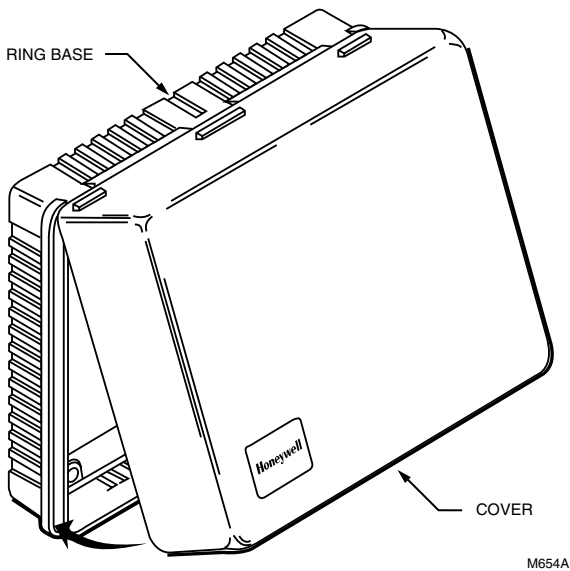
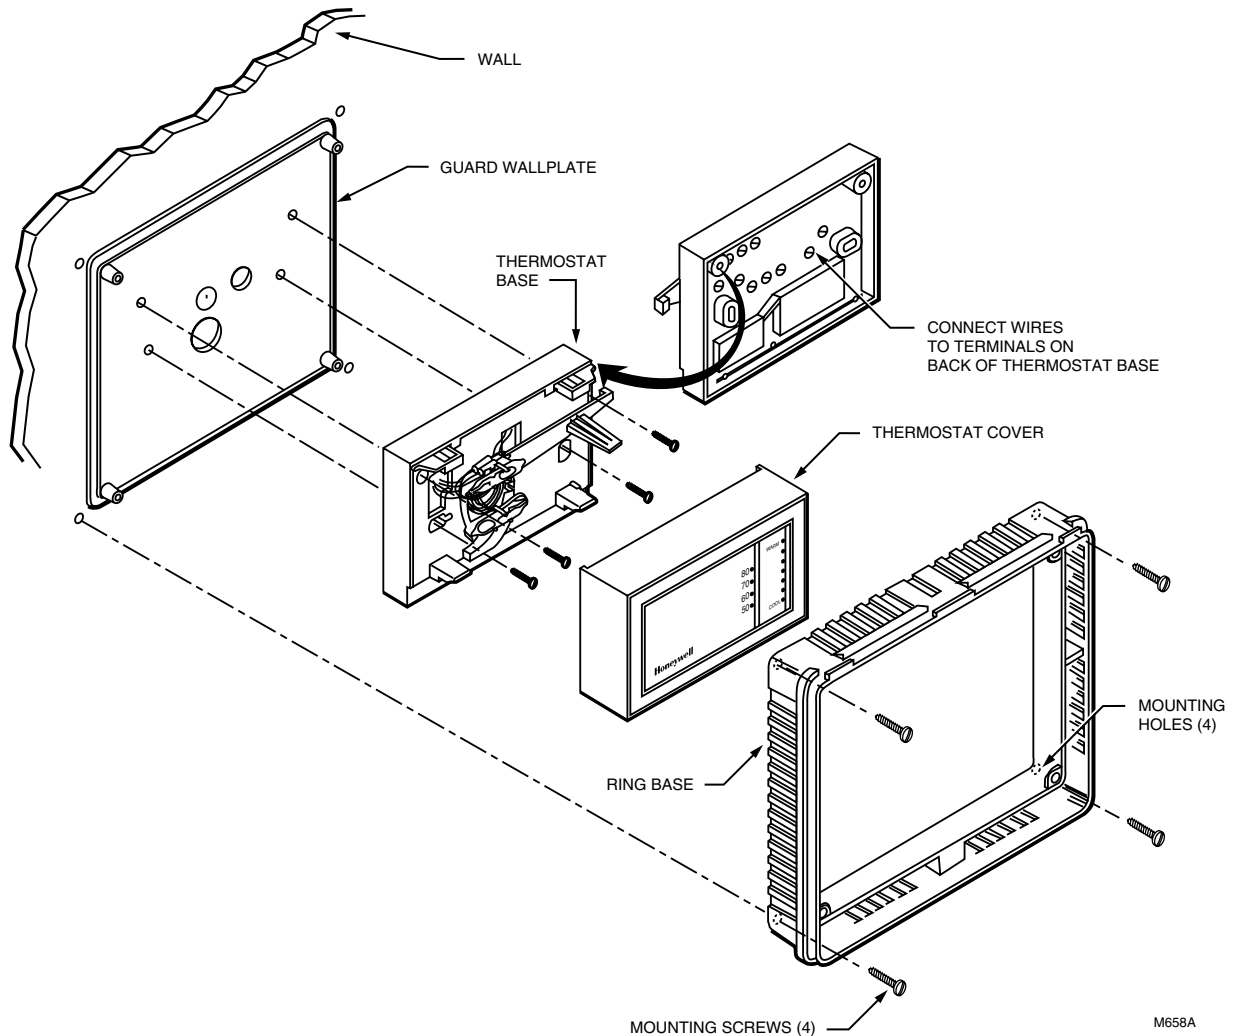

Fig. 7. Mount guard cover (TG510, TG511, TG512 shown).
Fig. 11. Mount guard wallplate and ring base on back-wired thermostat.
- 5 Mount the guard cover by placing the hinged edge of the guard cover on the ring base and swinging it down (horizontal mounting) or to the side (vertical mounting) until the guard cover is in place against the ring base. See Fig. 7.
- 9 Mount the guard cover by placing the hinged edge of the guard cover on the ring base and swinging it down (horizontal mounting) or to the side (vertical mounting) until the thermostat guard is in place against the ring base. See Fig. 7.
Back-wired Thermostat (Fig. 11)
- ❹ Mount the smooth side of the guard wallplate facing the thermostat and run the system wires through the wiring hole in the guard wallplate. The guard wallplate must be placed between the thermostat and the wall. See Fig. 11.
- ❺ Back-wire the thermostat. Refer to the instructions provided with the thermostat.
- ❻ Mount the thermostat and the guard wallplate to the wall using the 1-1/4 in. sheet metal screws provided with the thermostat. Make sure the guard wallplate is placed between the thermostat and the wall.
- ❼ Place the thermostat cover on the thermostat.
- ❽ Mount the guard ring base over the thermostat and the guard wallplate.
- ❾ Attach the ring base using four 1-1/4 in. sheet metal screws or four anchors and screws (provided).
- ❿ Mount the guard cover by placing the hinged edge of the guard cover on the ring base and swinging it down (horizontal mounting) or to the side (vertical mounting) until the guard cover snaps into place against the ring base. See Fig. 7.
- ❽ Wire the back-wired subbase. Refer to the instructions provided with the thermostat.
- ❾ Mount the thermostat subbase (wallplate) and the ring base with the guard wallplate to the junction box using the 1-1/4 in. sheet metal screws provided.
- ❿ Wire the front-wired subbase (wallplate). Refer to the instructions provided with the thermostat.
- ⓭ Mount the guard cover by placing the hinged edge of the guard cover on the ring base and swinging it down until the guard cover is in place against the ring base. See Fig. 7.